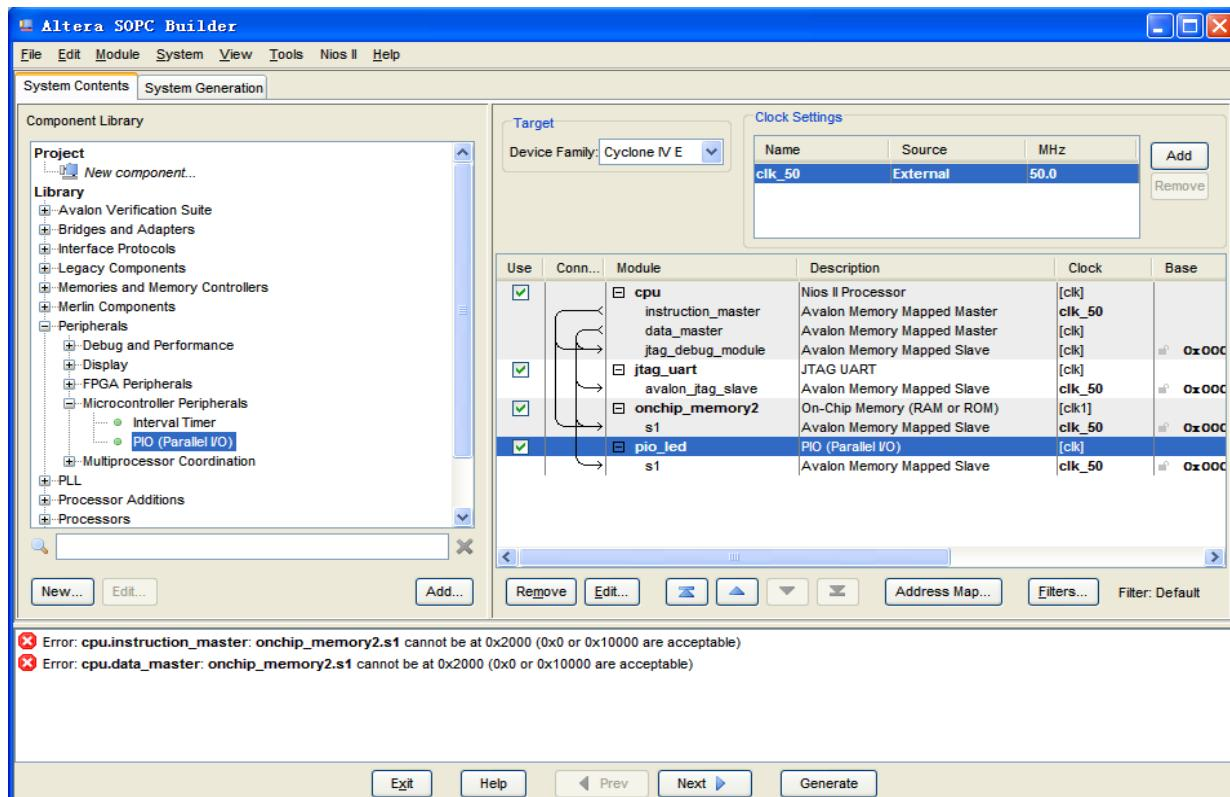

Figure 7-33 Rename PIO
21. Rename **pio\_0** to **pio\_led** as shown in **Figure 7-33**.